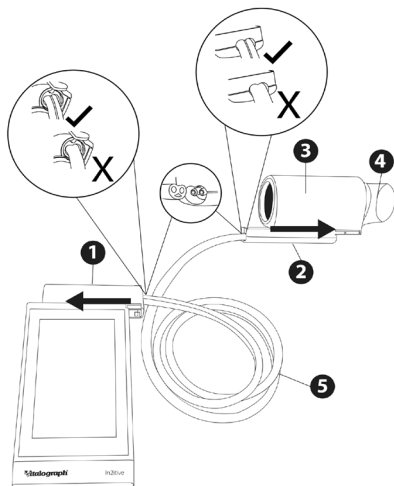

Figure 2: Remote Flowhead Assembly
If the remote flowhead is required (see Figure 2 below):
8. Unwrap flowhead connection tubing (5) and connect one end to the device cap (1). The tubing is keyed as shown in Figure 2, match this to the key on the device cap connector to ensure the tubing is in the correct orientation.
9. Connect the other end of flowhead tubing to the flowhead adaptor (2). The tubing is keyed as shown, match this to the key on the adaptor connector to ensure the tubing is in the correct orientation.